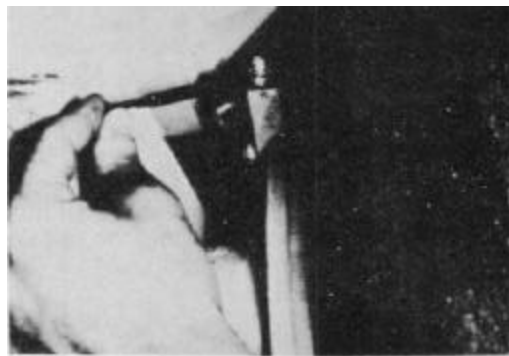

Figure 5-93
3. While holding pedal down, crack the bleeder valve with 7/16" wrench to let air out then tighten without allowing the pedal to move off the floor. Now release brake pedal (Fig. 5-93).